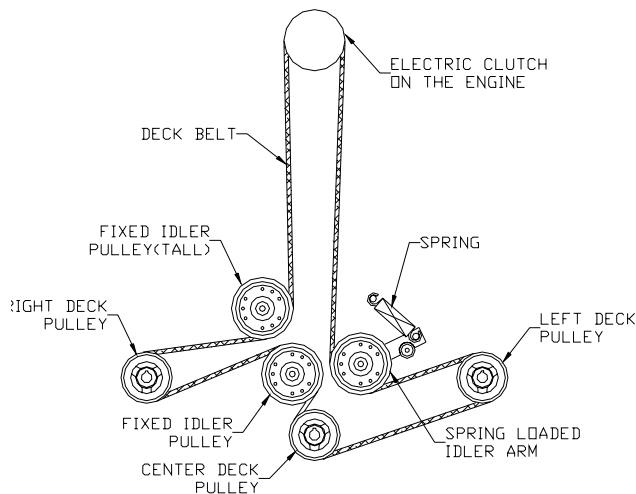

FIGURE 2
5. Remove the hood from the frame and install the deck belt. Be sure the belt is still wrapped around the clutch pulley under the rear deck. (See FIG 2)